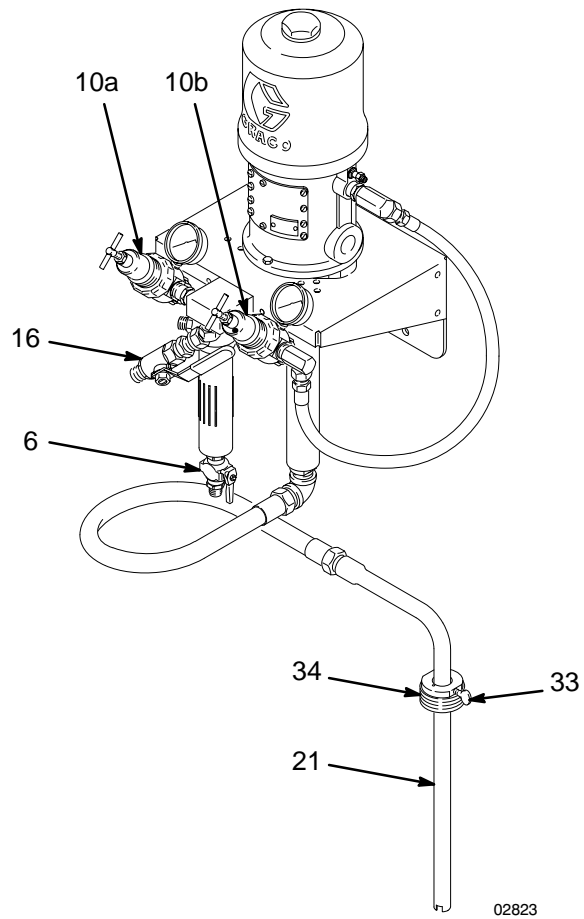

Fig. 3
See Fig. 3. Be sure the air regulators (10a and 10b) and bleed-type master air valve (16) are closed. Do not install the spray tip yet.